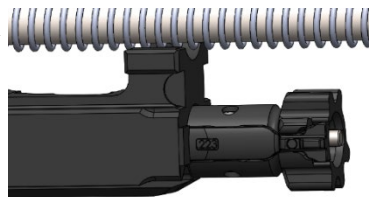

Figure 37: Extractor on Ejection Side
1. Insert the bolt head into the bolt carrier, with the extractor on the same side ejection as desired. Right-hand ejection is shown. (Figure 37)